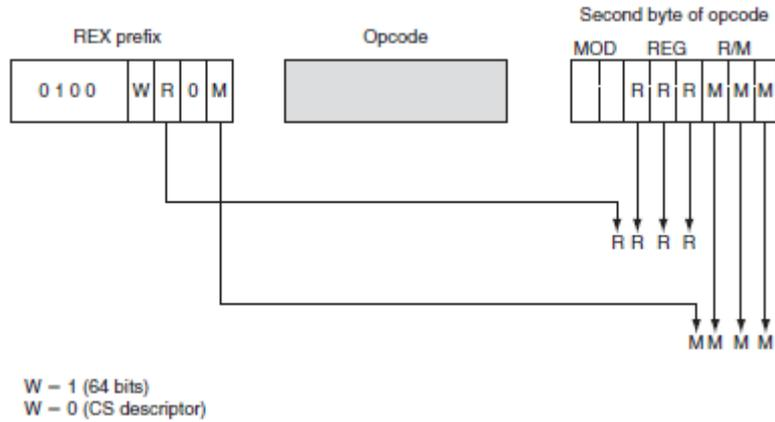

Figure 4-11: The application of REX without scaled index
- In the 64-bit mode, an additional prefix called REX(register extension) is added (Figure 4-11).
- The purpose of the REX prefix is to modify the reg and r/m fields in the second byte of the instruction (Fig 4-11).